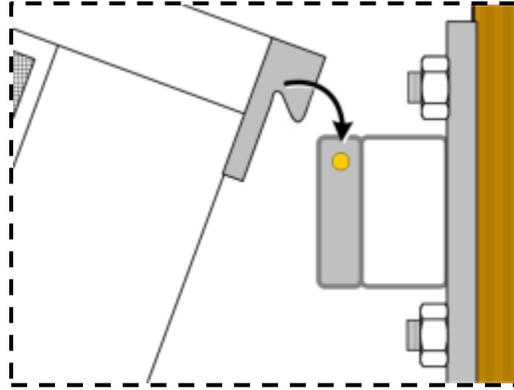

Figure 3-20. Hooking GX onto Bracket
4. Mount the GX unit onto the bracket: - referring Figure 3-20, hang the GX on the pins protruding from the relevant top and center parts (depending on single or dual installation) of the bracket.